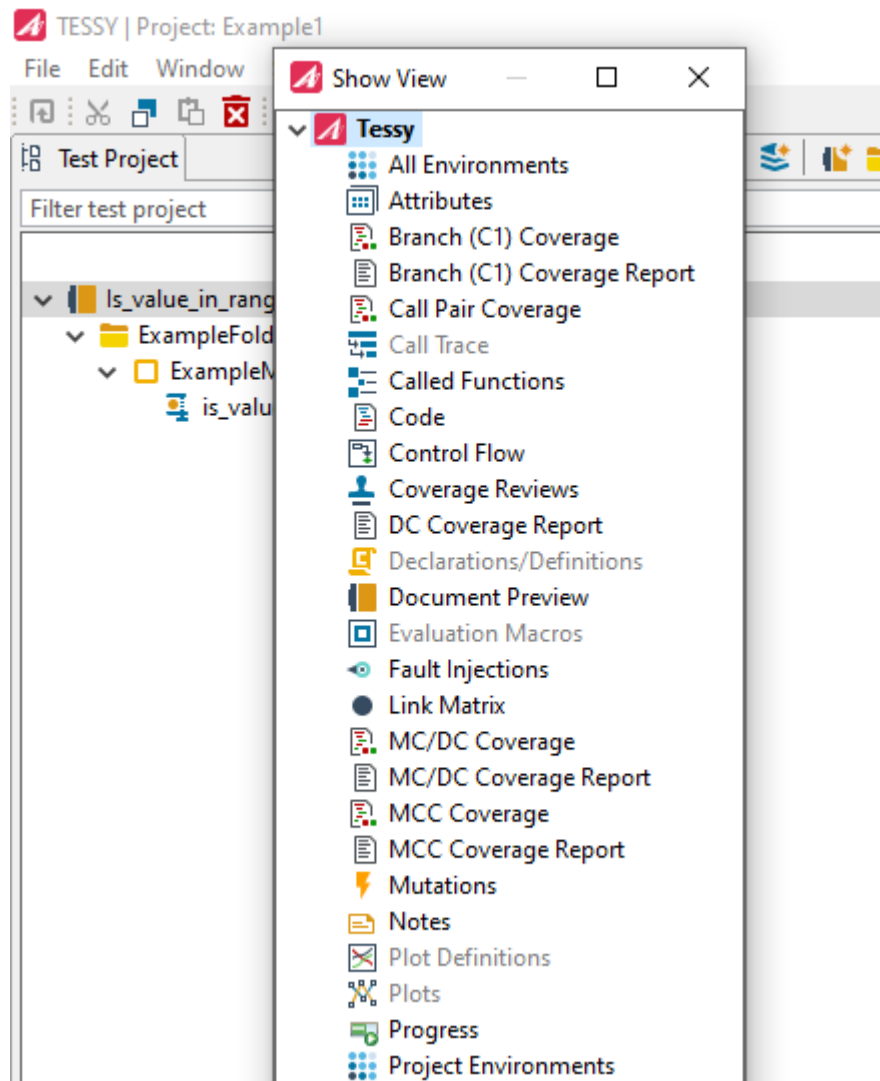

Figure 4.12: Adding views to a perspective
- A window displaying all views will open (see figure 4.12).